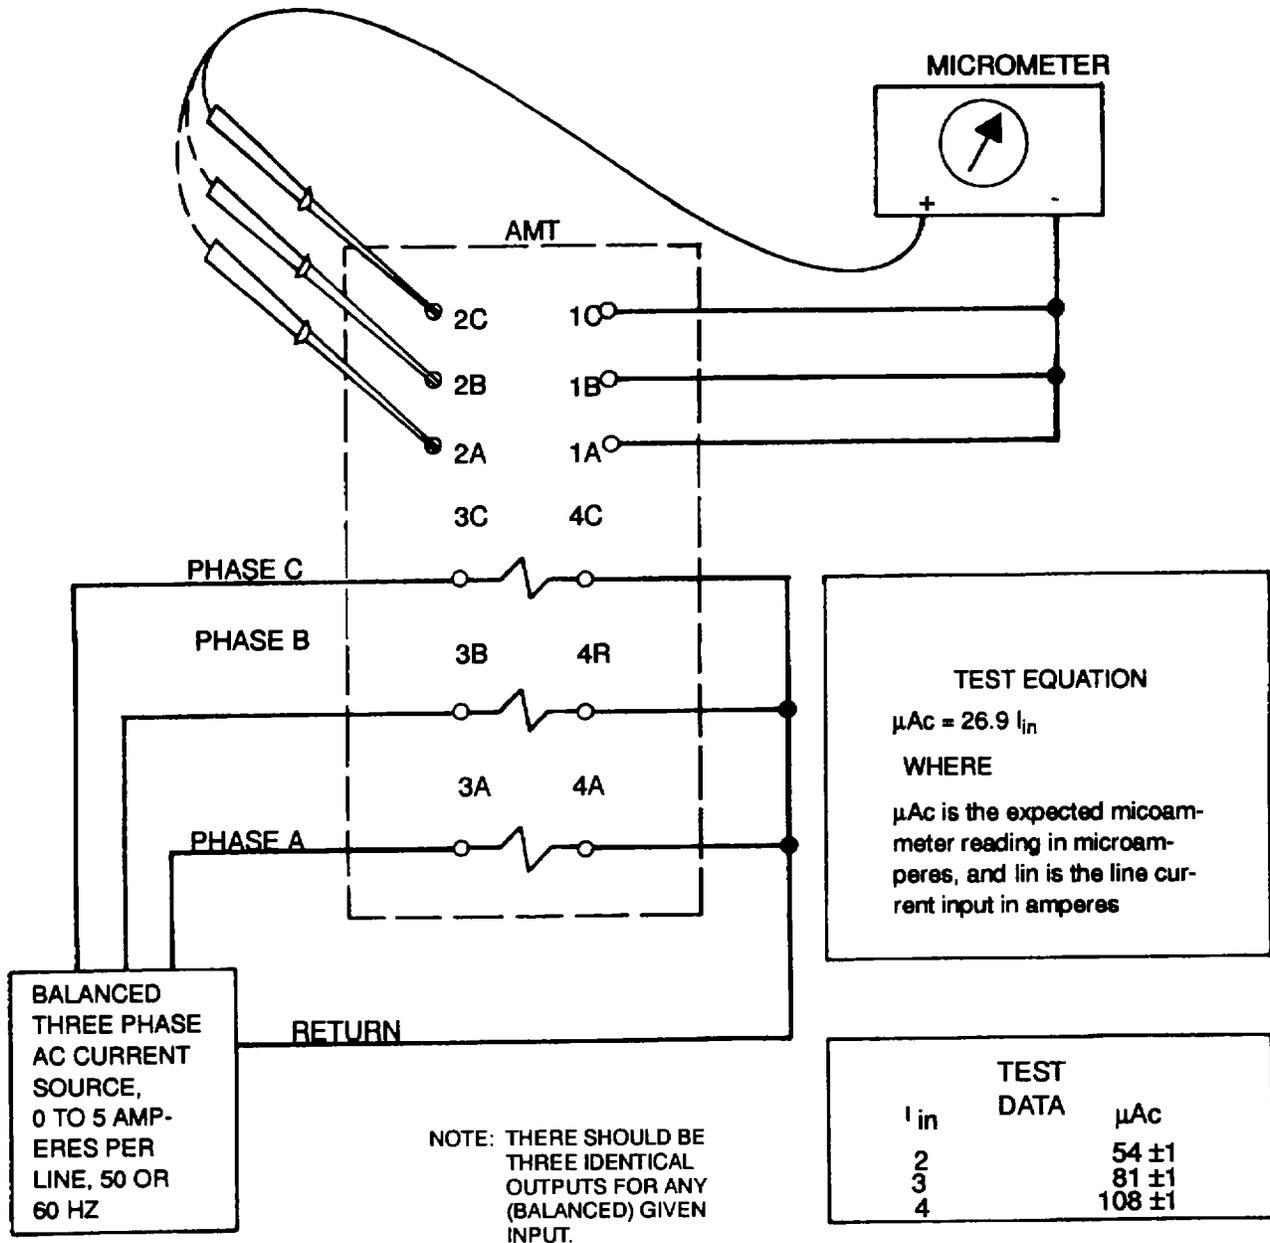

Figure 10-10. Current Transducer AMT, Bench Test Setup
- (1) Connect current transducers AMT into the test setup shown in Figure 10-10.
- (2) Apply balanced, three phase AC current, 50 or 60 hertz, at 2, 3, and 4 amperes. Record microampere output readings for each input current level.
- (3) Verify that microampere output readings at AMT terminals 2C, 2B, and 2A are always identical for a given current input. For example, when input is 2 amperes, output should be 54 microamperes at 2C, 54 microamperes at 2B, and 54 microamperes at 2A.
- (4) Verify that microampere output (μA_e) agrees with current input (lin) as shown in TEST DATA section of Figure 10-10.
- (5) If desirable to test at input current levels other than 2, 3, or 4 amperes, use TEST EQUATION section of Figure 10-10 to compute expected microampere output (μA_e) for a given current input (lin).
- (6) If test results indicate transducer AMT is defective, replace. If not, reinstall. Refer to step d, below.